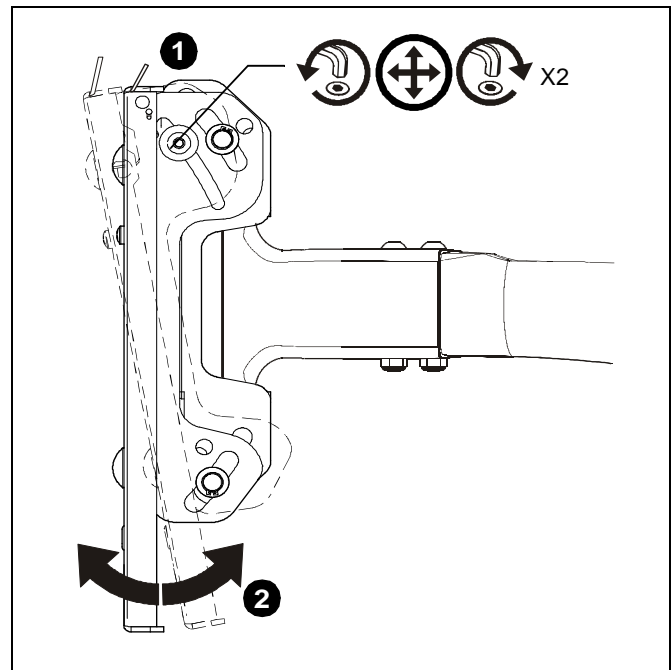

Figure 9
1. With display installed, tighten or loosen two screws, one on each side, using a 5/32" hex wrench. (See Figure 9)